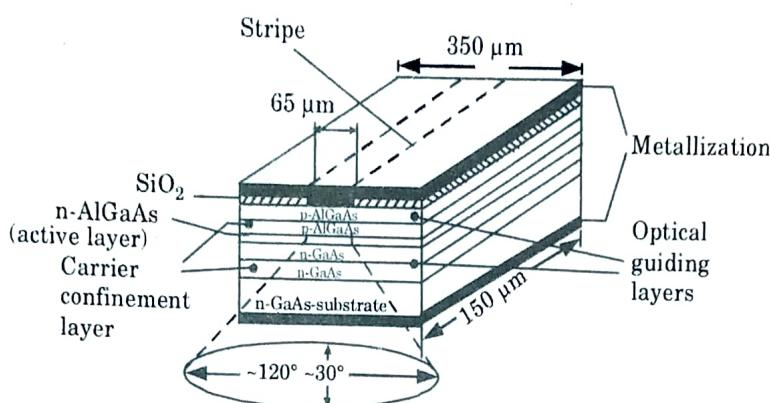

Fig. 3.4.4. Schematic illustration of the structure of a stripes geometry DH AlGaAs edge emitting LED.
2. The edge emitter depicted in Fig. 3.4.4 consists of active junction region, which is the source of incoherent light and two guiding layers.